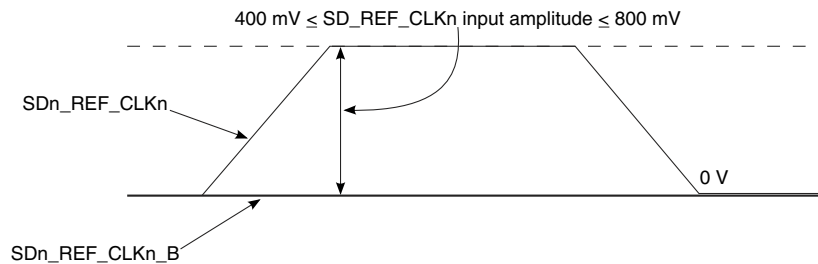

Figure 36. Single-ended reference clock input DC requirements
- The SDn_REF_CLKn input average voltage must be between 200 and 400 mV. Figure 36 shows the SerDes reference clock input requirement for single-ended signaling mode.